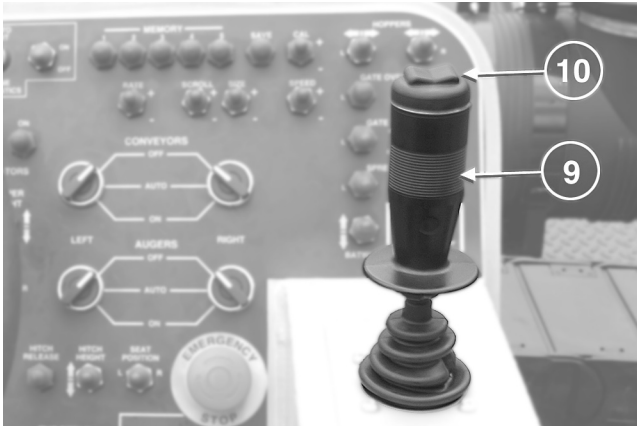

Figure 2. Speed/Direction Control Handle
9. Speed/Direction Control Handle (Figure 2)
10. Gate/Spread Roll Switch (Figure 2)